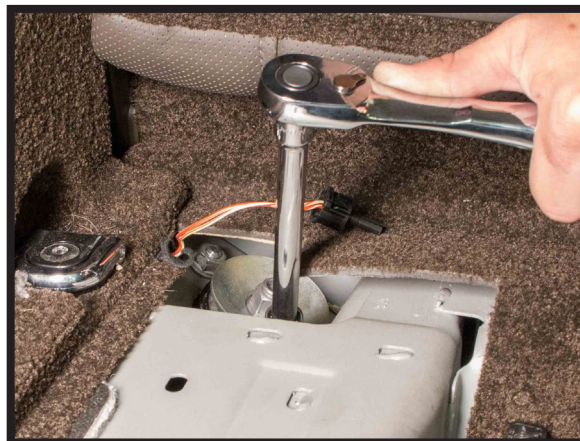

FIGURE 32
8. REMOVE THE THREE UPPER MOUNTING NUTS. (FIGURE 32)